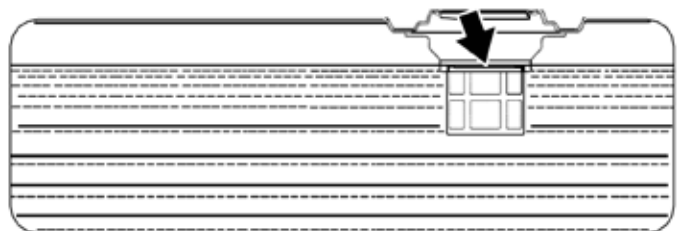

Figure 1: Maximum gasoline fill level
6. Slowly add gasoline into the fuel tank. Be very careful not to overfill the tank. The gasoline level should NOT be higher than the red ring (see Figure 1).